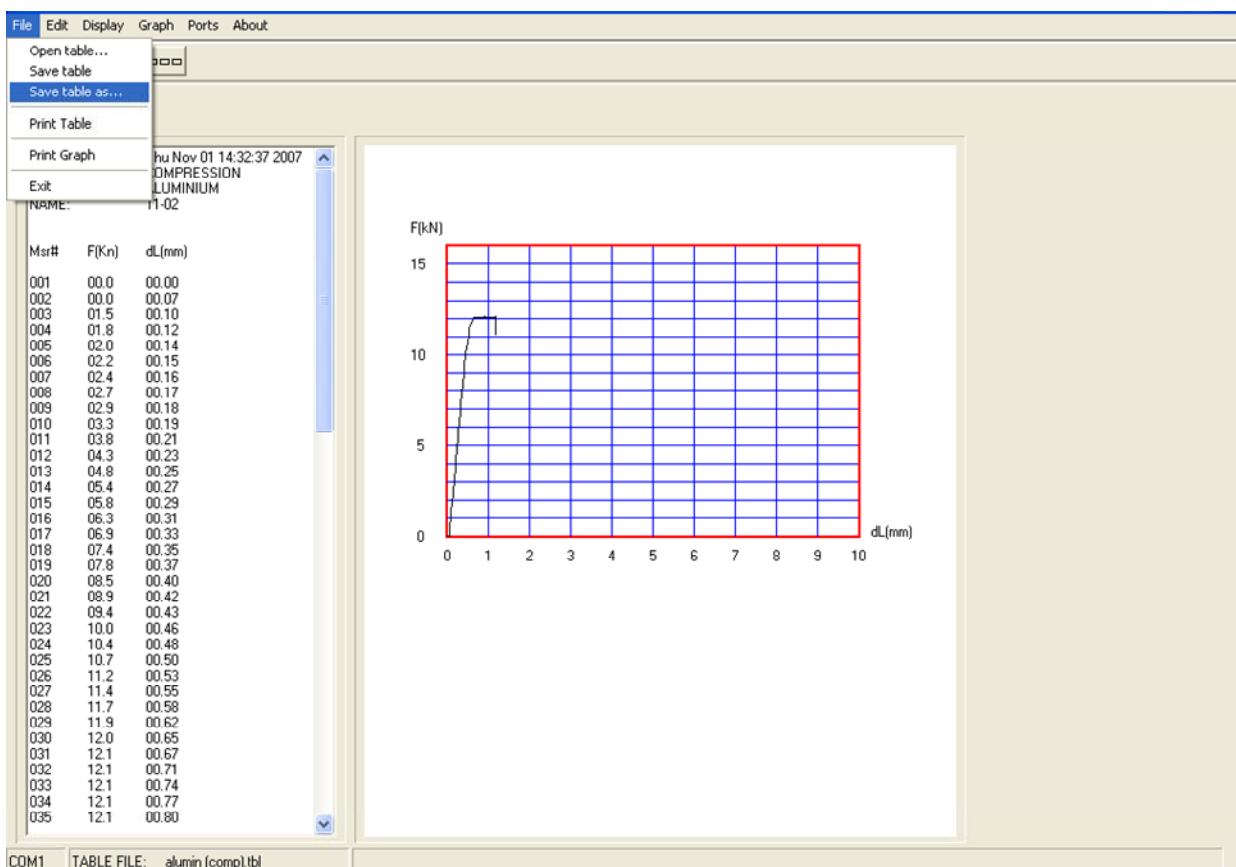

Fig. 5.15: Final test results.
9. The machine starts and the cylinder moves slowly upwards while four measurements of load and extension per seconds are being stored in a table as shown in Fig. 5.15.
11. Save the table and the graph as shown in Fig. 5.15.